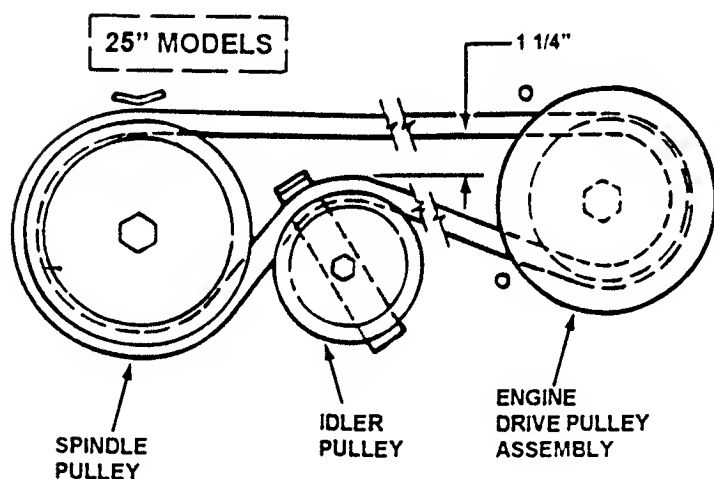

FIGURE 4.1
3. Place deck cutting height in the 3rd position. Measure the belt spacing at idler pulley. The distance should measure 1-1/4" but no less than 1". See Figure 4.1.